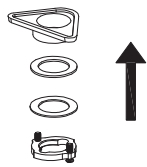

Figure 1
1. Assemble all the hardware, nuts, and attachments in the correct order. (See *Figure 1*)
2. If your faucet has a pull-out, connect the pull-out hose to the connector. Depending on your faucet model, it could have a threaded connector, or a snap-on connector. (See *Figure 1*)